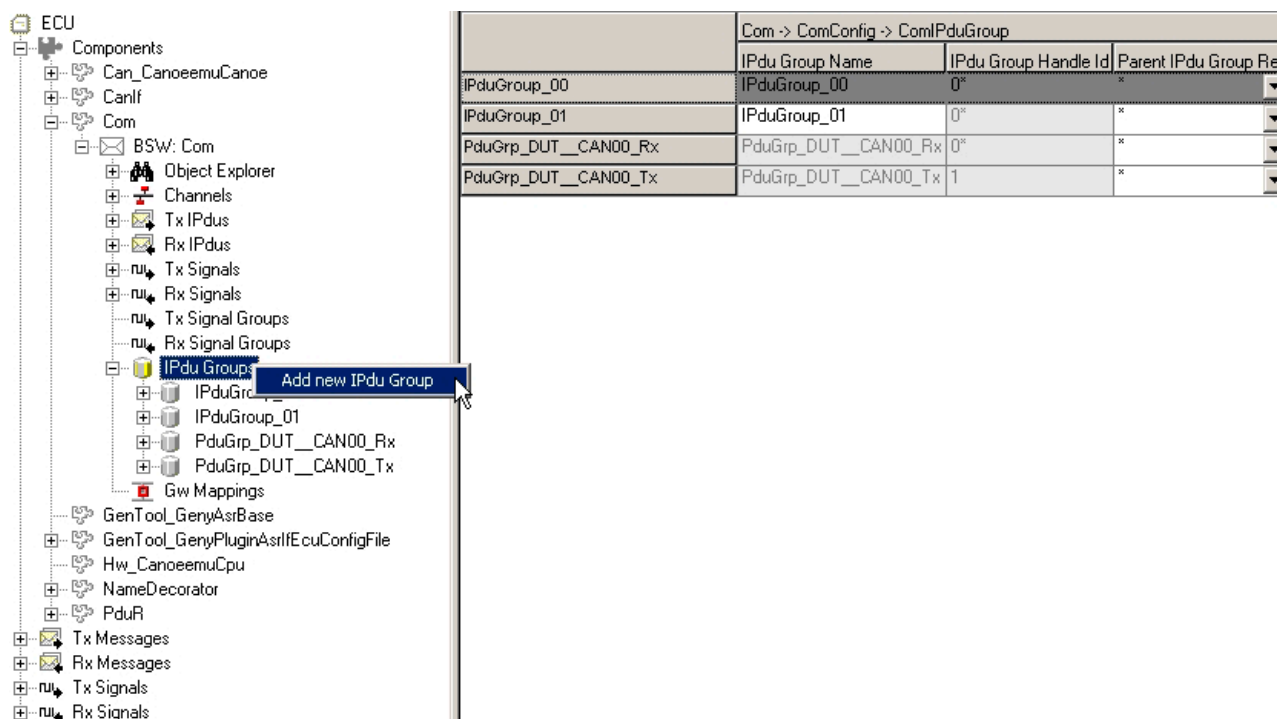

Figure 3-2 Creating an I-PDU Group
- > To create a new I-PDU group, right-click on the “IPdu Groups” node in the GENy components view and select “Add new IPdu Group” as shown in Figure 3-2. Configure a unique name for each newly created I-Pdu group.